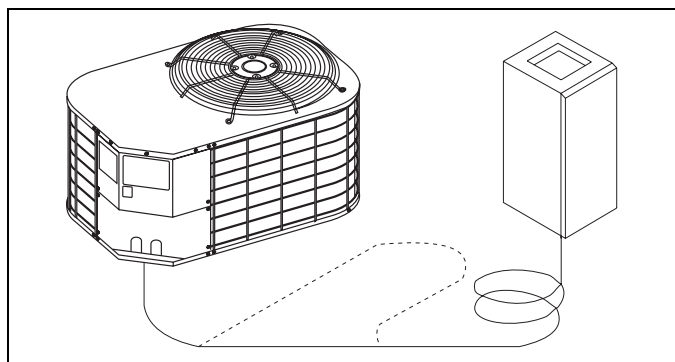

FIGURE 3: Excess Tubing
- b. Excess tubing must be coiled horizontally so the flow of refrigerant is from top to bottom of the coil and toward the outdoor unit. Another method is to form a horizontal "U" large enough to take care of excess. See Figure 3.